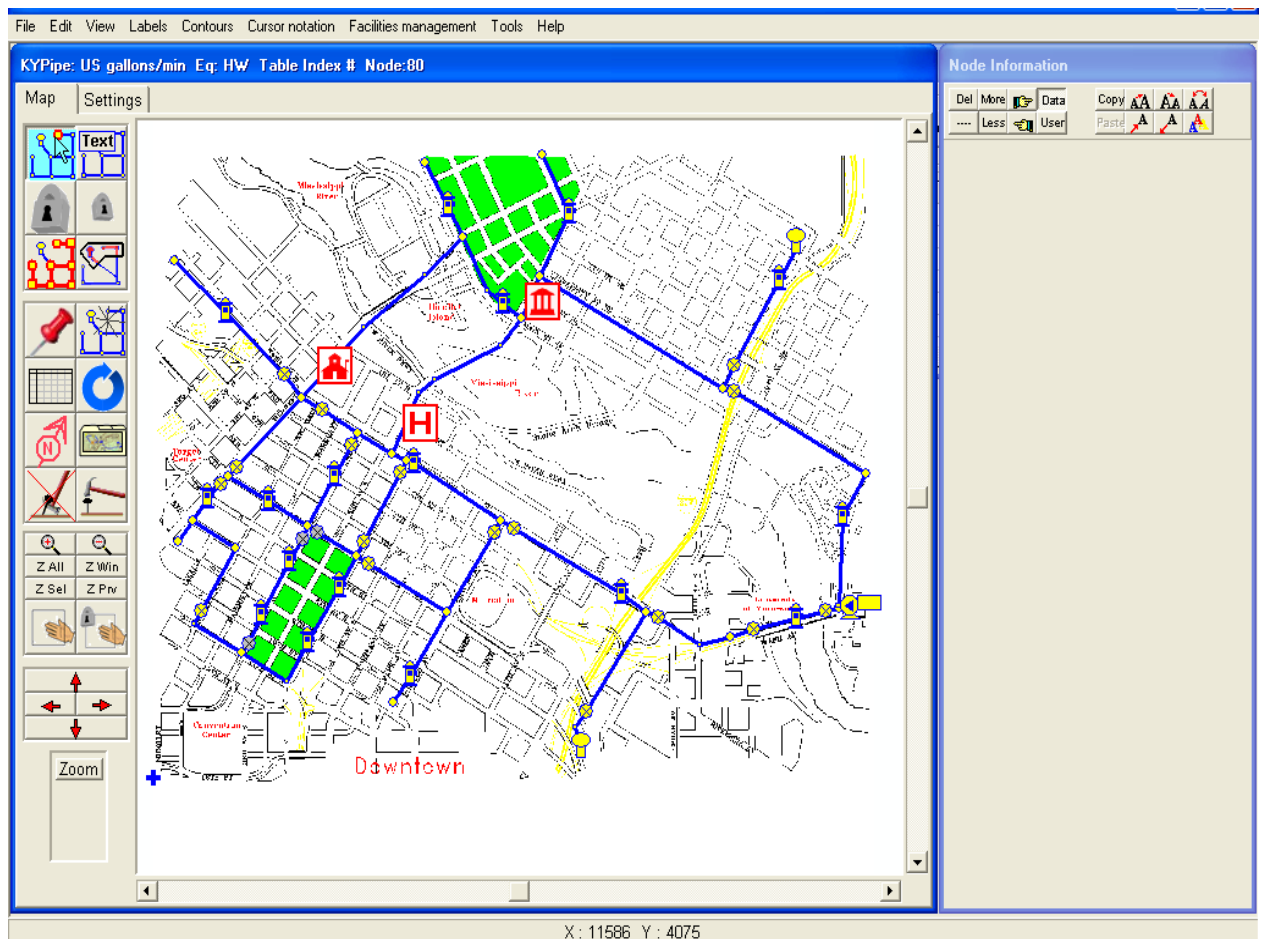
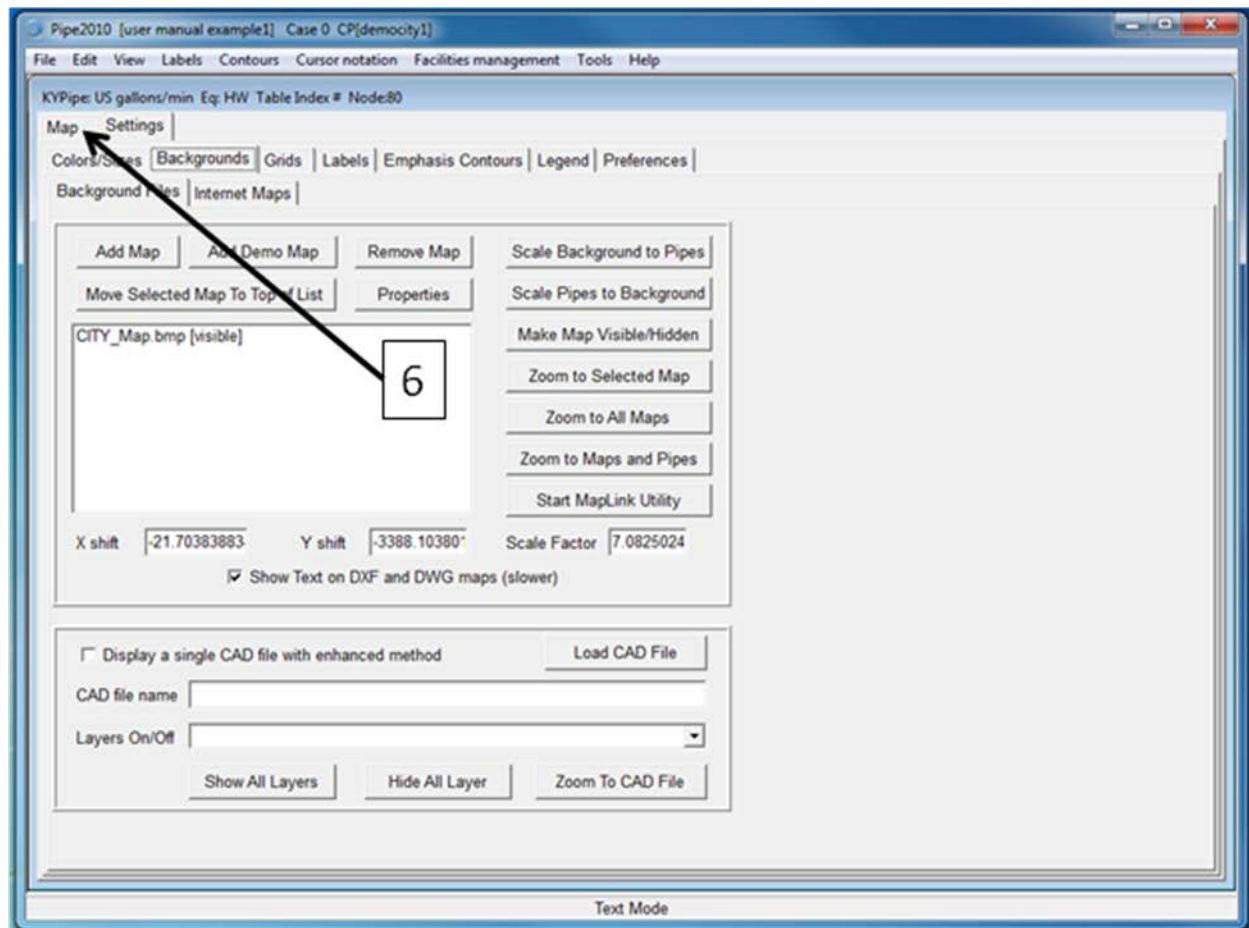

Figure 1.3 Network Schematic and Map with Critical Asset Icons
Figure 2.10 Returning to Map View to See the Background Map
3. In addition to having a map of the network, it would also be helpful to have a feature that would allow the user to immediately see locations of any critical users or infrastructure that are on the distribution system. This functionality has been provided by allowing the user to turn on infrastructure icons which can be readily seen and identified in the program GUI (see Figure 1.3).
The view will revert to the Settings Menu and the name of the background map will appear in the files window. To see the background map and return to the Map View, [6] click on the Map tab as shown in Figure 2.10. The end result can be seen by referring back to Figure 1.3. A user can follow the same process to load any background map that is desired. The user should use the dialog box to navigate to the location and name of the desired file and select “Open.”